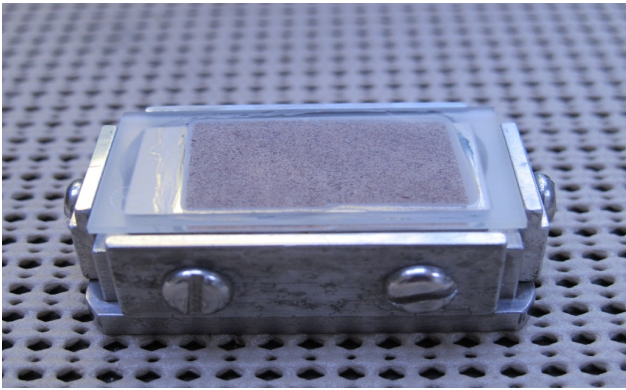

Figure 10
2. Spray a small amount of ethane dial on the slide holders and place the samples frosted side up onto the holders (Fig. 10).